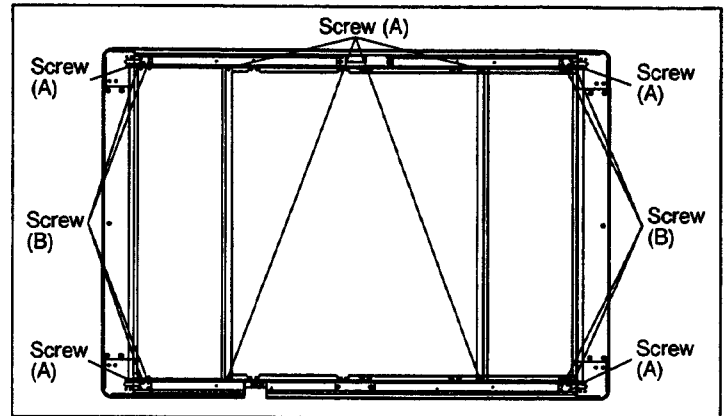

Fig. 5-14
- 2) Remove 8 screws (A), as shown in Fig. 5-14, and remove the rear covers with the attachments.
- 3) Remove 8 screws (B) shown in Fig. 5-14.
- 2) Remove 8 screws [same as (B) shown in Fig. 5-14].